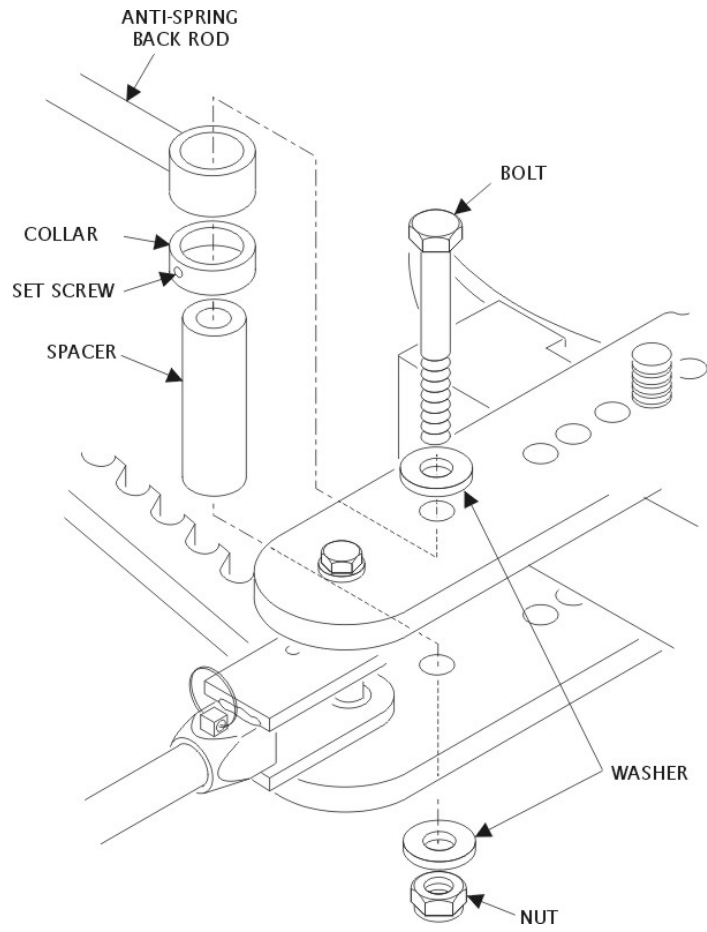

Figure 2.
2. Remove the nut, sleeve and bolt from the pivot arm. See Figure 2.
3. Lightly grease and insert the sleeve into the release lever assembly Per Figure 2.
4. Install the release lever spring onto the release lever assembly as shown in Figure 2.
5. Locate the release lever assembly onto the pivot arm locating it over the bolt holes per Figure 2. Locate the release lever spring end over the pivot arm.